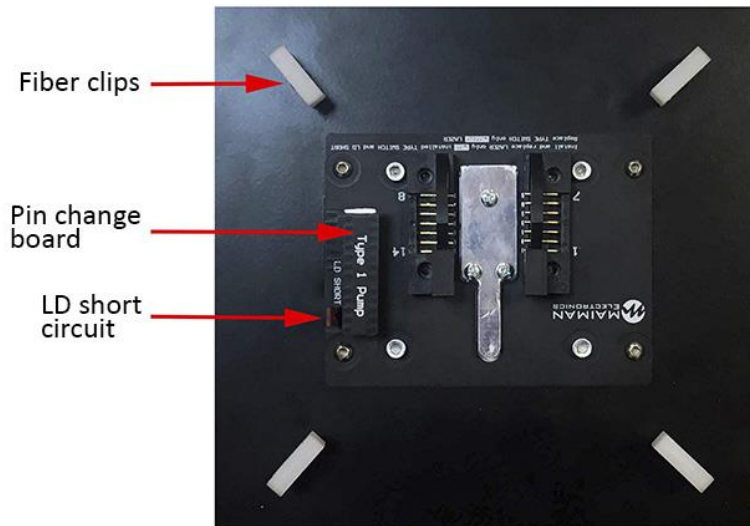

Fig. 7 – LD seat for type 1 Butterfly 14-pin
1. Determine the required pinout type in accordance with the description on the LD. Install the pin change board in the LD seat (Figure 7). Please note that the position of the pin change board key (white stripe) must correspond to the position of the LD seat key;